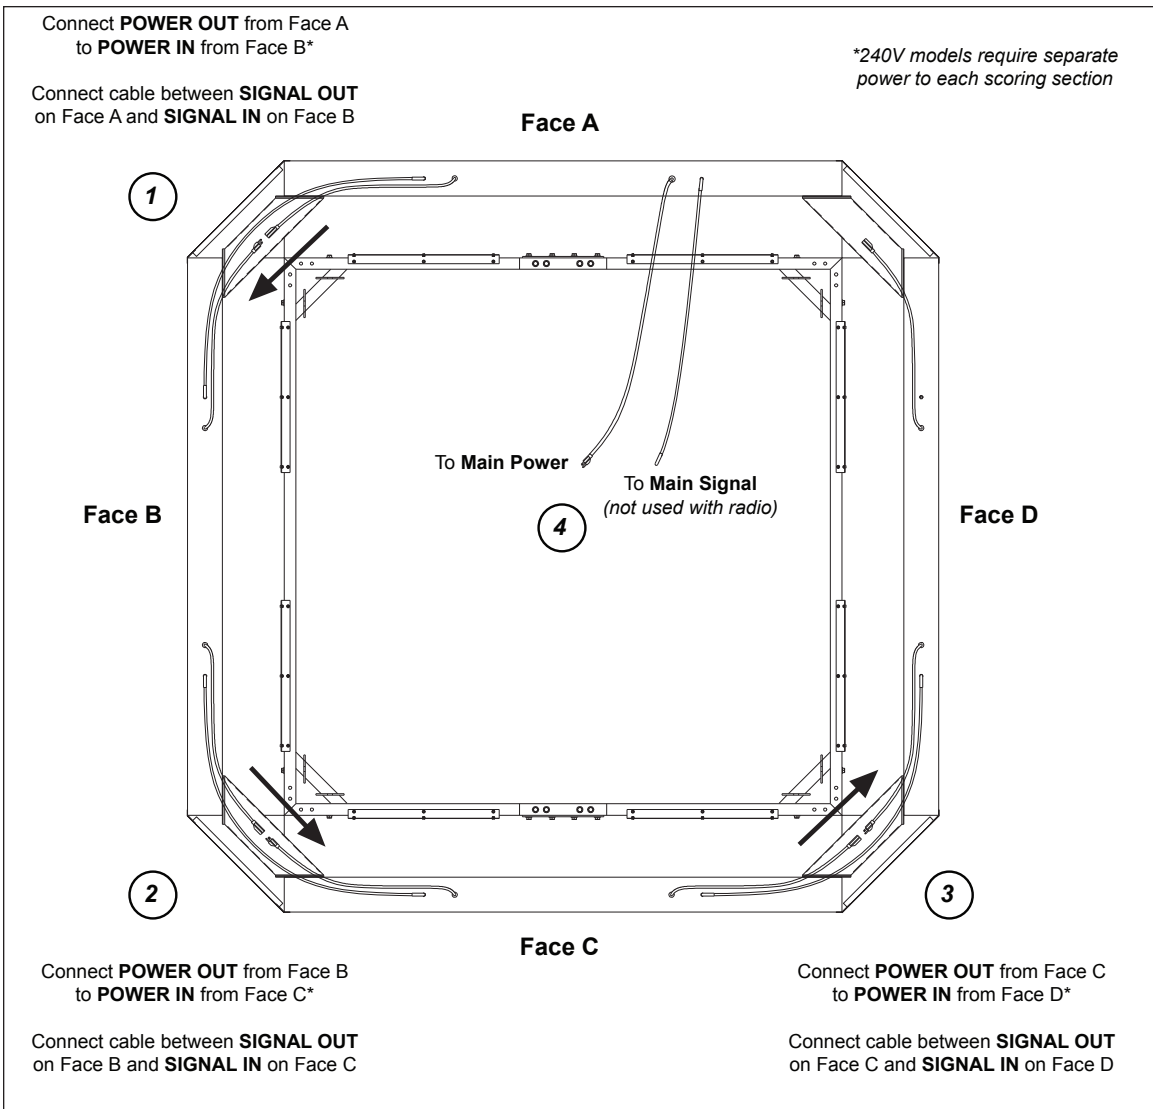

Figure 5: Scoreboard Power & Signal Connection, Top View
Power and signal flows counterclockwise around the display from face output to face input. **Figure 5** shows the power and signal flow between sections. Main power and signal are terminated last; refer to **Power (p.16)** and **Wired Signal Connection (p.17)**, respectively.
6. Ensure each scoreboard face has a signal cable connected to it. Refer to **Figure 5**.
Only one scoreboard face will have a radio receiver installed. All other scoreboard faces must have a wired signal connection between them. Refer to **Figure 5**.
Only one scoreboard face will have a base station receiver installed. All other scoreboard faces must have a wired signal connection between them. Refer to **Figure 5**.